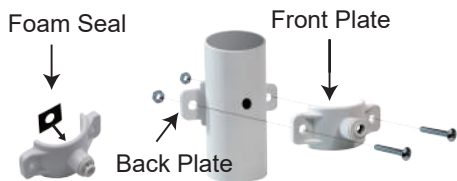

Figure 7
1. Paste the foam seal onto the front plate of drain saddle. Make sure the hole of foam seal is aligned with the hole of front panel (figure 7). Choose a spot on the drain pipe that is convenient for installing the drain saddle.